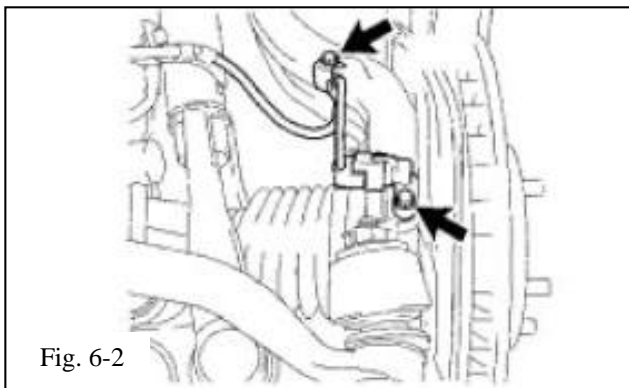

Fig. 6-2
- (b) Remove the 2 bolts and separate the speed sensor from the steering knuckle (Fig. 6-2).
- (h) Reinstall the speed sensor (Fig. 6-2). Torque the upper bolt to 120 lbf·in (14 N·m) and the lower bolt to 75 lbf·in (8.5 N·m).